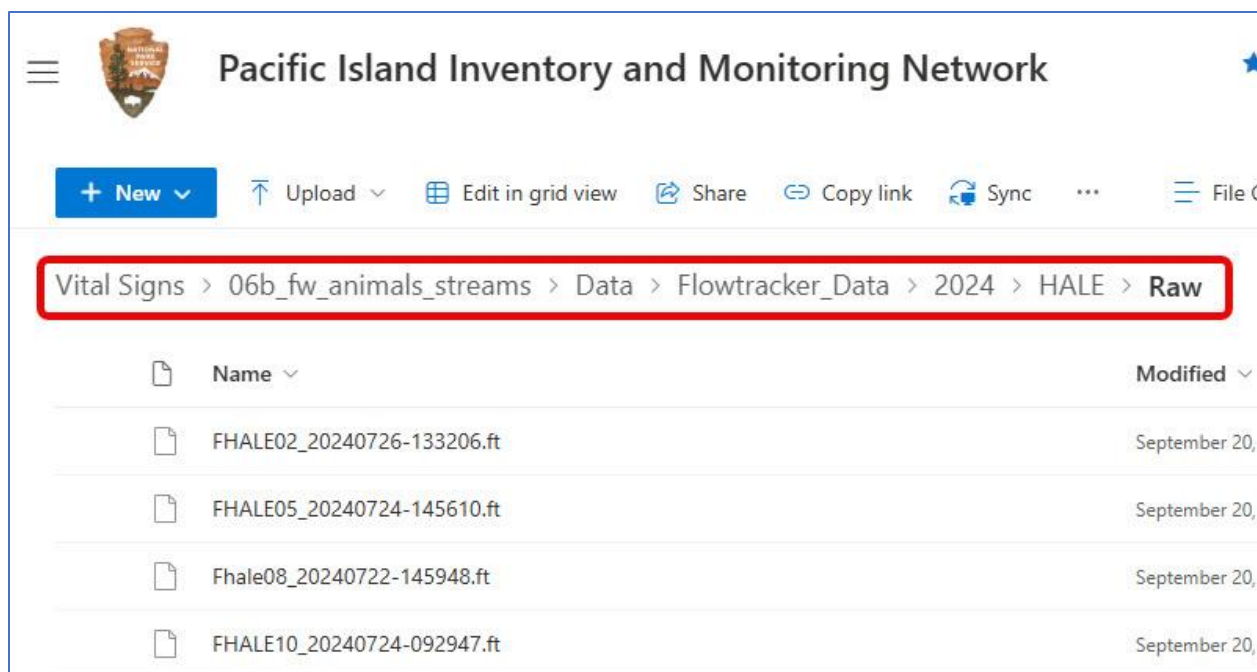

Figure SOP 24.16. Example of where to save raw FlowTracker files in SharePoint for 2024 HALE data.
- Upload RAW files to “Raw” folder for the appropriate park and year which are subfolders within the “Flowtracker Data” folder in SharePoint (Figure SOP 24.16, below).